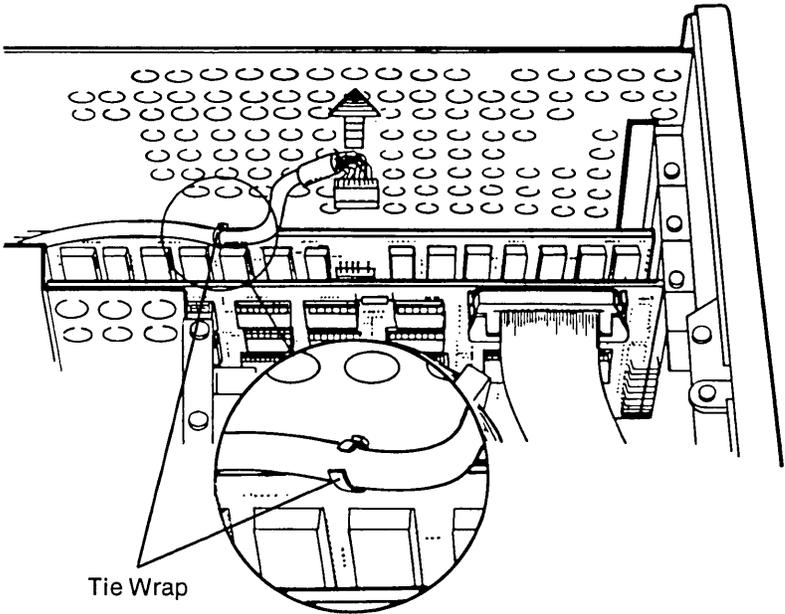

Figure 8-12. Disconnecting the VDU Cable From the VDU Adapter Board.
- 5 Disconnect the VDU cable from the VDU board (see Figure 8-12).